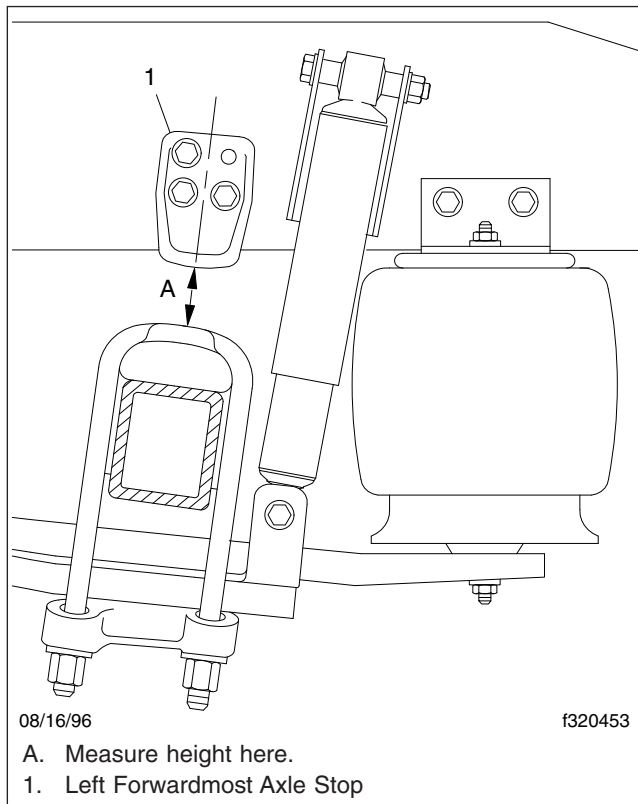

Fig. 7, AirLiner Axle Stop Measurement
- On single-drive rear axle configurations, measure the distance from the bottom of the left axle stop to the top of the U-bolt pad. On tandem (dual-drive) rear axle configurations, measure the distance from the bottom of the forwardmost left axle stop to the top of the axle U-bolt pad. See **Fig. 7**, Ref. A. The correct distance for single